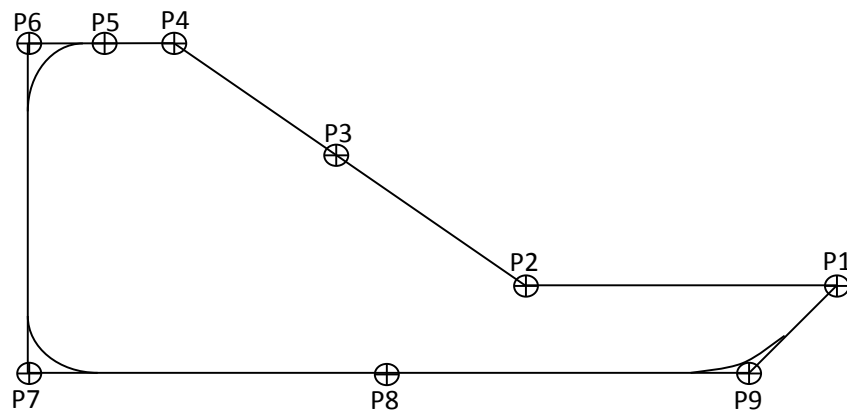

Figure Q5[c]
- [c] **Develop a program for Kuka robot to apply adhesive on an automotive component. The component contour is illustrated in Figure Q5[c] using base[2] and tool[5]. The traversing velocity is 0.3 m/s. Make sure that the longitudinal axis of the tool is always perpendicular to the path contour (orientation control). Insert the approximate positioning instruction into the motion commands of the program so that the robot follows the contour continuously. The corners of the contour are to be approximated using different approximation parameters. Add logic functions for a programmable logic controller to issue an enabling signal (input 11) before the robot leaves the HOME position and receive a finished signal (output 11) 50 mm in distance before the end of work on the component. The finish signal is activated for 2 seconds. The adhesive nozzle (output 13)**